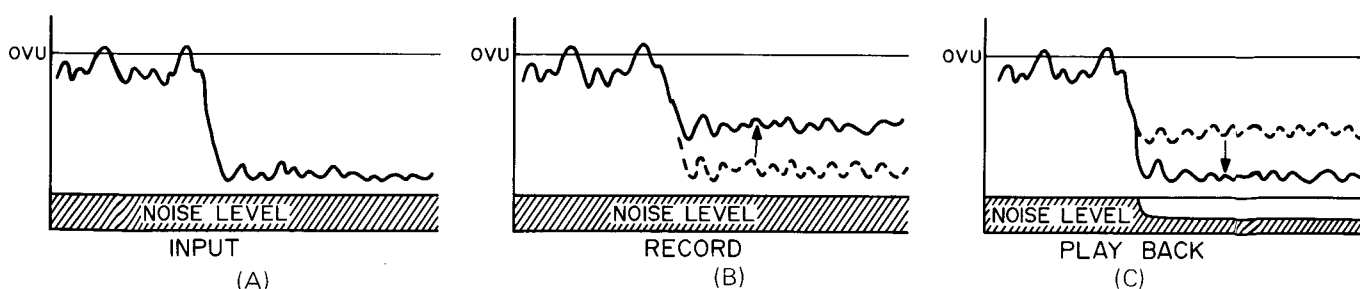

Figure 32-3
- To solve this problem, it is so designed that only the pianissimo part is boosted in its level as shown in Fig. 32-3-B., when recorded: the result is that there will be more difference between the noise level (maintained as before) and the desired signal level.
- In playback, the pianissimo part is levelled down at the same amount as in recording, as shown in Fig. 32-3-C, so that the noise level is also lowered giving rise to an increase of S/N ratio.